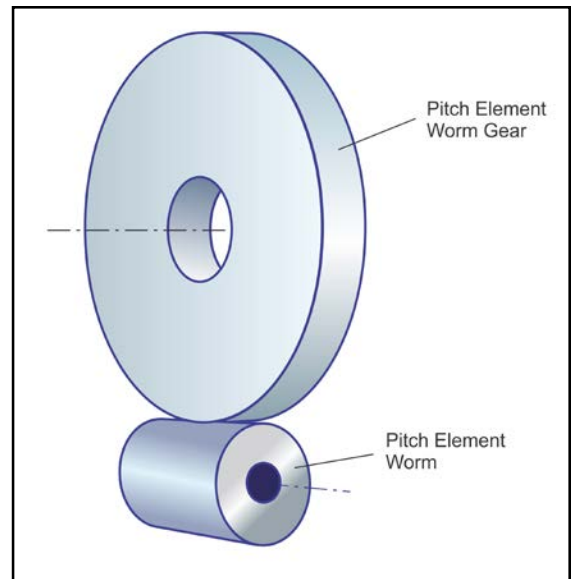

Figure 2 Pitch elements of crossed helical worm gear pair.
**A. Crossed helical worm gear drive.** This is a special case of crossed helical gears, where the worm is a helical gear with one to six teeth, and the worm gear has a high number of teeth (e.g., above 30). The pitch elements of a crossed helical worm and worm gear are cylinders (Fig. 2). Both members—worm and worm gear—are manufactured like helical gears, with standard hobs, for example. The profile of both members is involute. The hobbing tool in Case A is not identical to